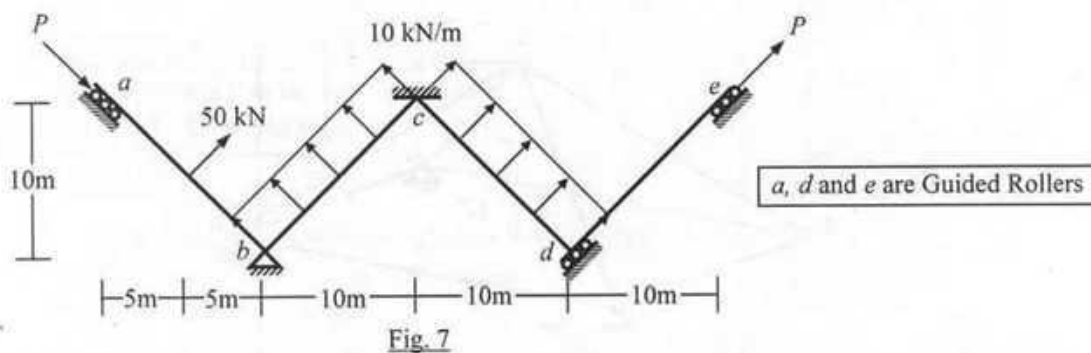

Fig. 7
10. Use Stiffness Method (considering flexural deformations, if $P = 0$) to calculate the rotation at node b and deflection at d of the frame $abcde$ loaded as shown in Fig. 7 [Given: $EI = \text{constant} = 10 \times 10^3 \text{ kN-m}^2$].
11. Use Constant Average Acceleration (CAA) Method (considering flexural deformations only, if $P = 0$) to calculate the rotation at node b of the 5% damped frame $abcde$ shown in Fig. 7, at time $t = 0.01 \text{ sec}$ after starting from rest (i.e., no initial displacement and velocity), assuming consistent mass of the members, each weighing 8.0 kN/m .
- Force P needed to cause buckling of frame $abcde$ shown in Fig. 7 (considering members ab and bc),